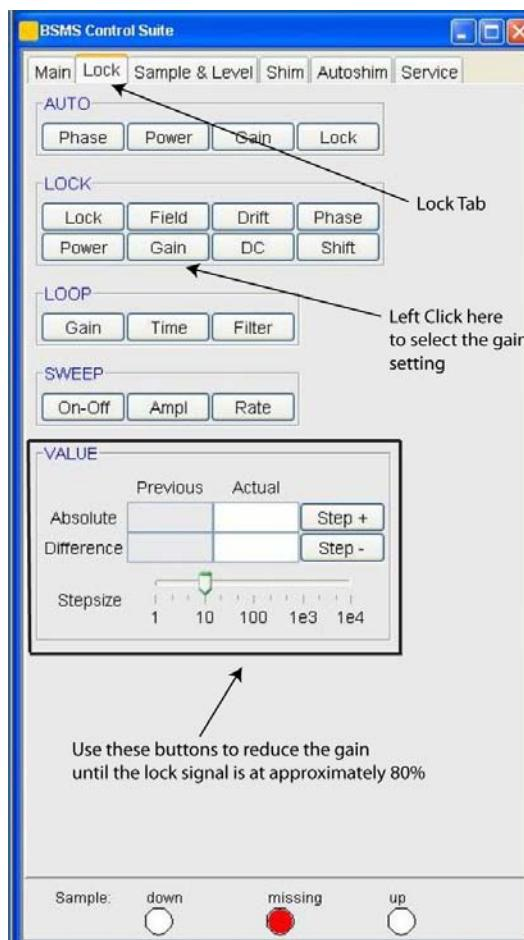

Figure 12 Lock tab of the BSMS interface.
(11) Now that the probe is tuned the magnet can be shimmed. The automatic shimming process can be carried out by left clicking on “Gradient Shimming” in the NMR step-by-step menu. The process of auto-shimming can take a few minutes so please be patient. When the process is completed the bottom of the main topspin window should say “gradshimau finished”. If you are unhappy with the auto-shimming method you can use the “instructions for manual shimming” document which can be found at the following link: <http://www.uleth.ca/artsci/magnetic-resonance/information-students>.
(12) The auto-shimming process usually increases the lock signal to the point where it is greater than 100% and is no longer visible on the lock screen. When this occurs you should re-open the BSMS interface by left clicking on “BSMS Panel” in the NMR step-by-step menu. Inside the BSMS interface you should left click on the lock tab (see Figure 12). Now you should left click on the gain button as this will allow you to make adjustments to the gain. Lastly, you should left click on the “step –“ button until the lock signal re-appears on the screen and the lock signal strength is at ~80%. The step size ruler (shown in the highlighted box) can be used to increase or decrease the value by which the “step –“ and “step +” buttons change the lock gain.